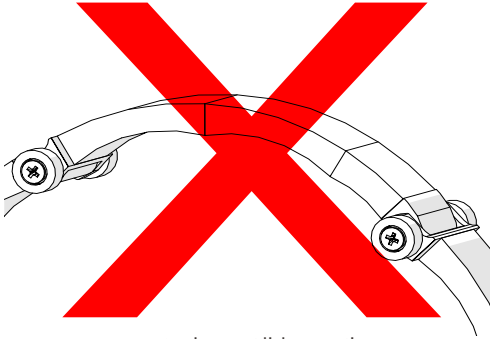

Fig. 101 - Incorrect link connection
1. Do not connect a link of any size directly to another link (Fig. 101).